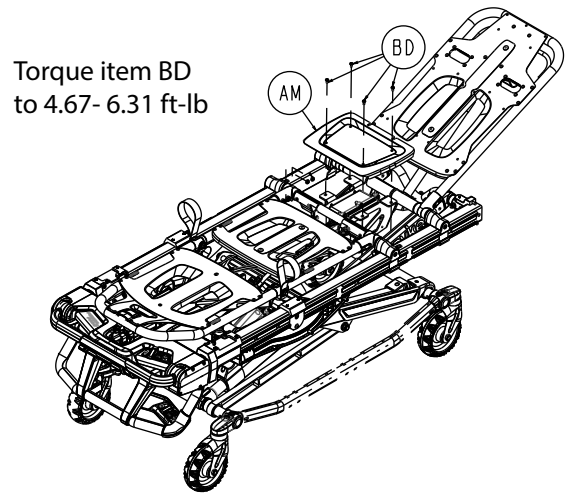

Figure 94 – Remove the screws and seat skin
22. Using a T25 Torx driver, remove the four pan head thread rolling screws (BD) that secure the seat skin (AM) to the cot (Figure 94). Remove and save the seat skin. Save the screws.